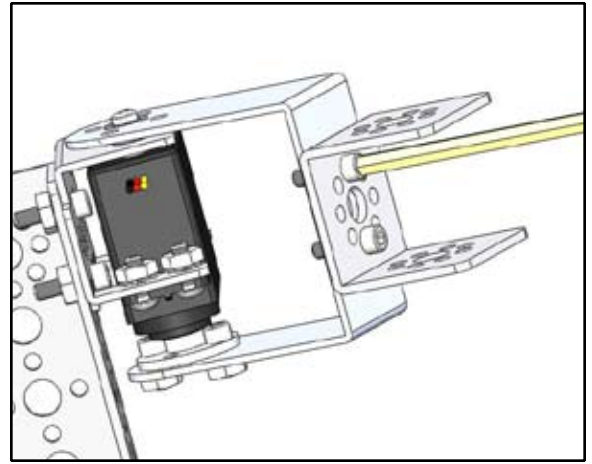

Figure D12
- 8) To the end of each pivot bracket, attach a 32 mm channel with the open side facing away from the bracket (Figure D12).